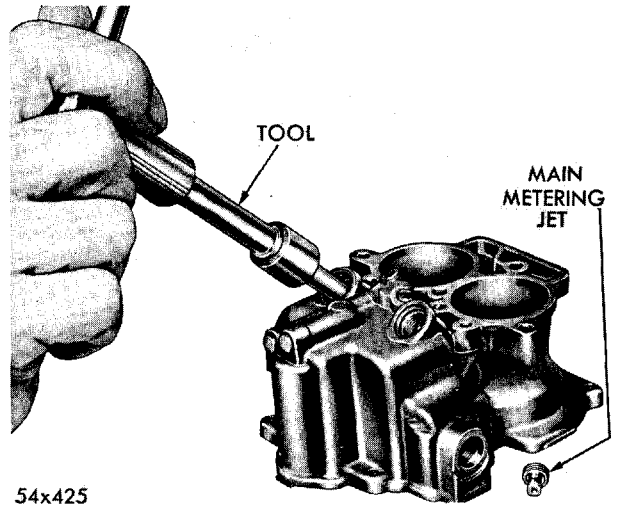
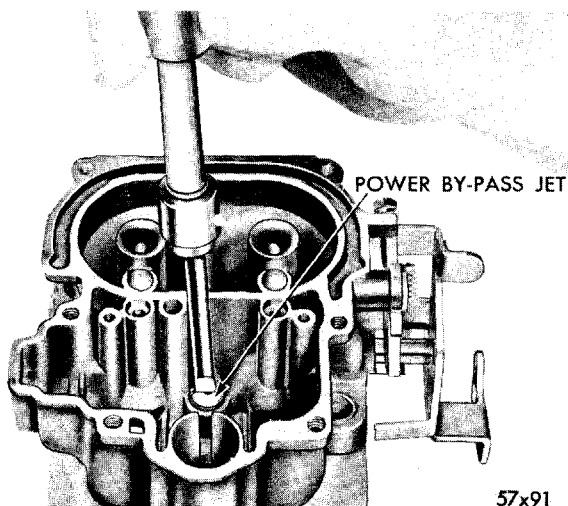

Fig. 11—Removing or Installing Main Metering Jets
Fig. 10—Removing or Installing Power By-Pass Jet
(15) Remove the power by-pass jet and gasket, as shown in Figure 10.
(16) Remove the screws and lockwashers that hold the throttle body to the main body. Lift off the throttle body. Discard the gasket.
(17) With the main body in an inverted position, remove the main jet plugs, using Tool 73598 and 73609. Discard the plug gaskets.
(18) Using Tool 73606, remove the main metering jets, as shown in Figure 11.
(19) Now, remove the main discharge jets (or tubes), using Tool 73608. This Tool has a tapered right hand thread and should be screwed into jet. The threads that
(2) Insert the main metering jets in the body over the discharge jets (or tubes) just installed. Tighten securely, using Tool 73606. (See Figure 11.)
(3) Slide new copper gaskets in the main jet plug openings, then insert the plugs and tighten securely.
(4) Place the assembled throttle body on the inverted main body, using a new gasket. Install screws and lockwashers, then tighten securely.